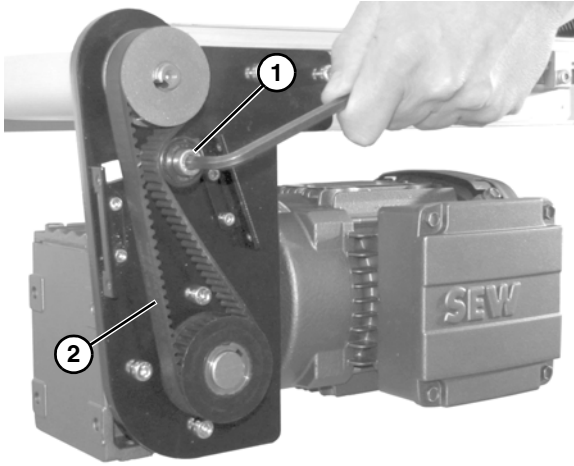

Figure 25
3. Loosen tensioner (**Figure 25, item 1**) and remove timing belt (**Figure 25, item 2**).